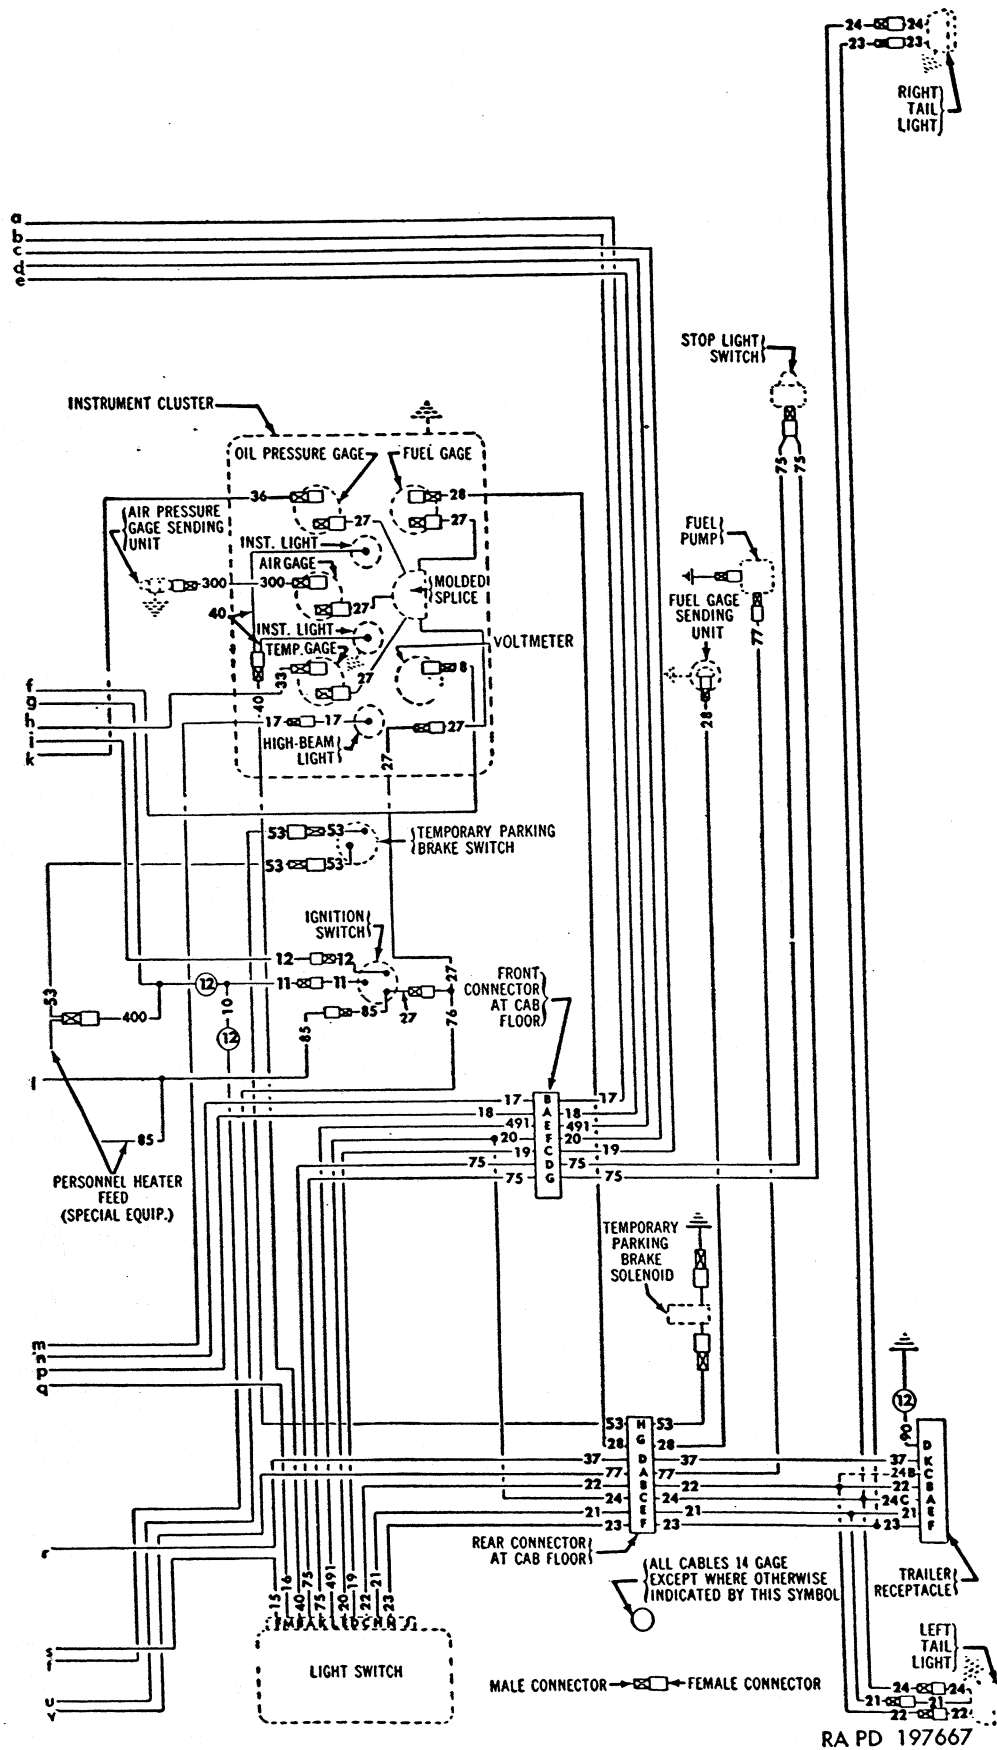
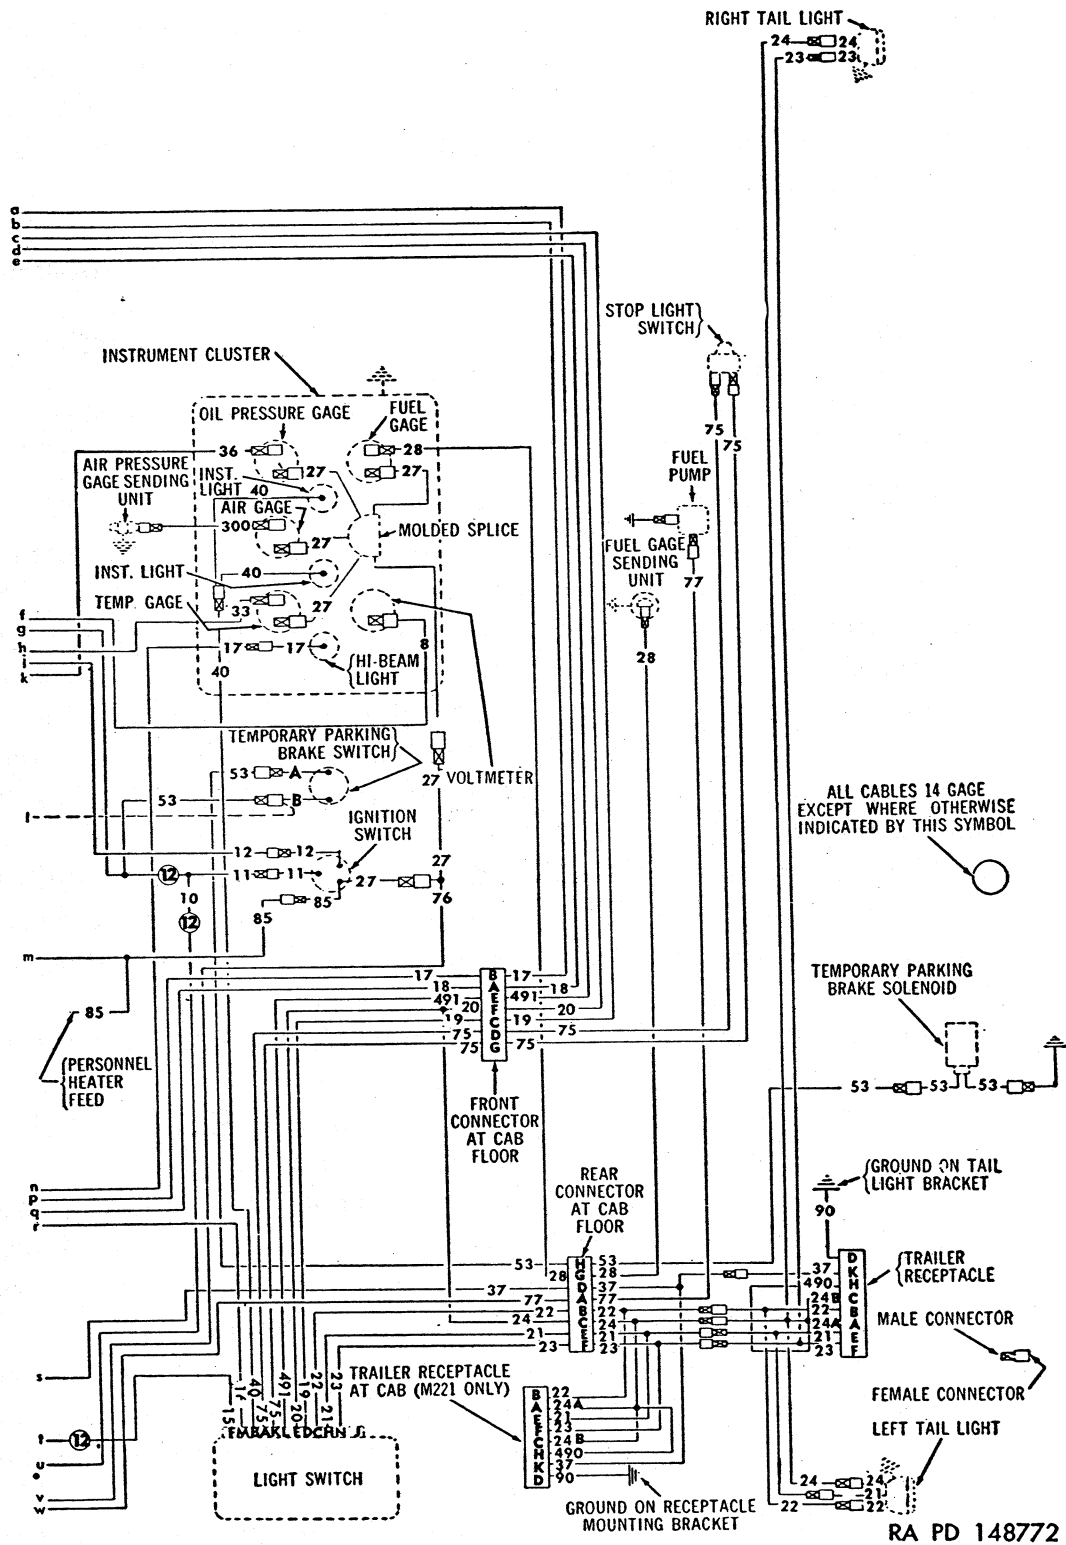

Figure 167—Continued.
Figure 168—Continued.
The electrical system is a 24-volt, waterproof sealed system. Sealing electrical system against moisture also accomplishes suppression of radio interference noise in conjunction with capacitors (condensers) and resistors installed in or connected to some electrical units (par. 188). Wiring circuit diagrams (figs. 167 and 168) show all wiring cir-
cuits and connections, together with an outline of each electrical unit showing its relative location on the vehicle. Wiring circuit diagram shown in figure 167 applies to early M135 trucks. Wiring circuit diagram shown in figure 168 applies to late M135 trucks and all other models covered by this manual. Wiring circuit diagram for electrical system in shop van body (M220) is shown in figure 386. Units used in electrical system, with individual circuit diagrams, are described in other paragraphs as follows:
*a.* Each cable for each circuit in electrical system is identified by a metal tag near each end of cable; metal tags bear standard ordnance circuit numbers. All cables in a single circuit are identified by the same number; however, when cables for a circuit are connected through more than one multiple plug and receptacle-type connector, they may connect to a different lettered terminal at each connector. Reference should be made to wiring circuit diagram (fig. 167 or 168) when making connections.
*b.* Grouped connections are made through multiple plug and receptacle type connectors. These connectors, shown on wiring circuit diagrams, are located at the points in (1) through (4) below on the vehicle.
- (1) Front end connector is located at right side of radiator above right headlight.
- (2) Engine connector, used only on early M135 trucks, is located under right battery at side of generator-regulator.
- (3) Two connectors are located in cab floor at left of driver's seat; disconnect is made from outside of cab below cab floor.
- (4) Multiple connectors are also used at generator, generator-regulator, light switch, and trailer receptacle.